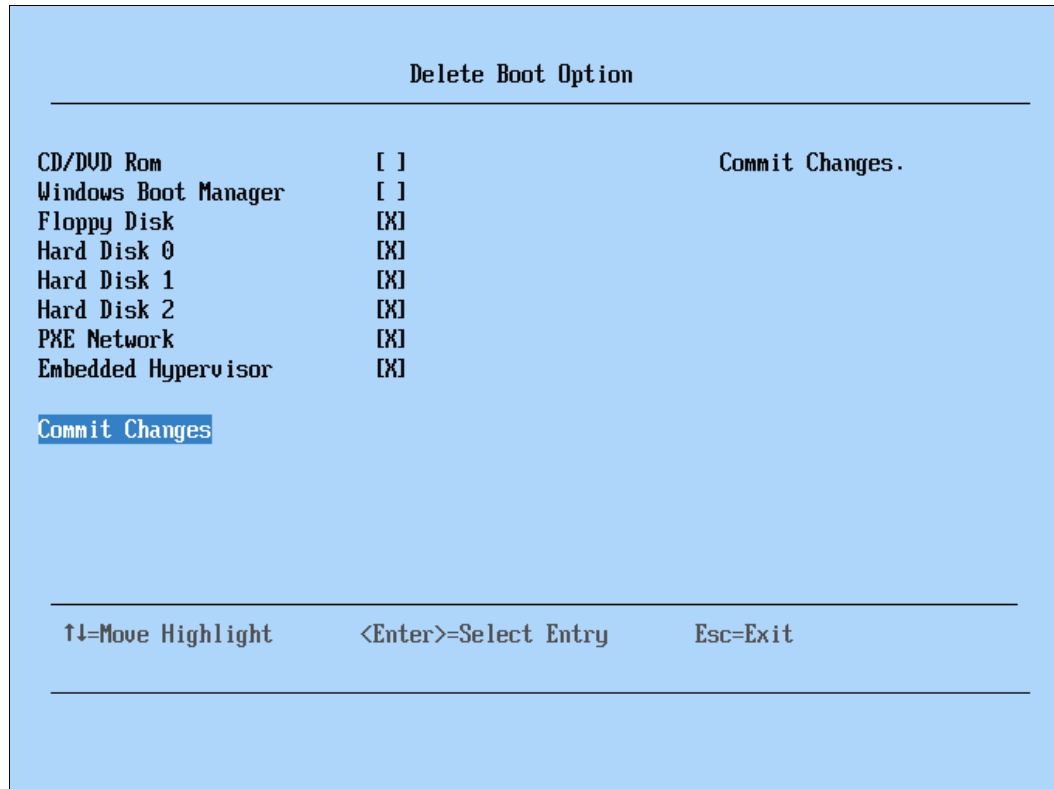

Figure 7-42 Deleting boot options
4. Select all items that you do not want to boot from by using the Spacebar to select them. When you have selected all of the items, scroll down to the end of the page using the down arrow key and select **Commit Changes**, as shown in Figure 7-42 on page 345. In the example in Figure 7-42 on page 345, **Hard Disk 0** has also been selected for removal. The system is running Windows Server 2008 R2 with GUID Partition Table (GPT) disk support from UEFI, and therefore, Windows Boot Manager is used to boot the OS, not Hard Disk 0.